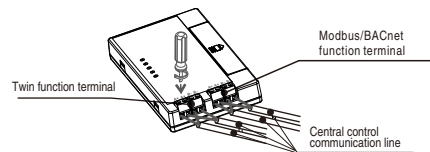

Fig. 2 Connection of central control communication line
- Connection of central control communication line, as shown in Fig. 2.